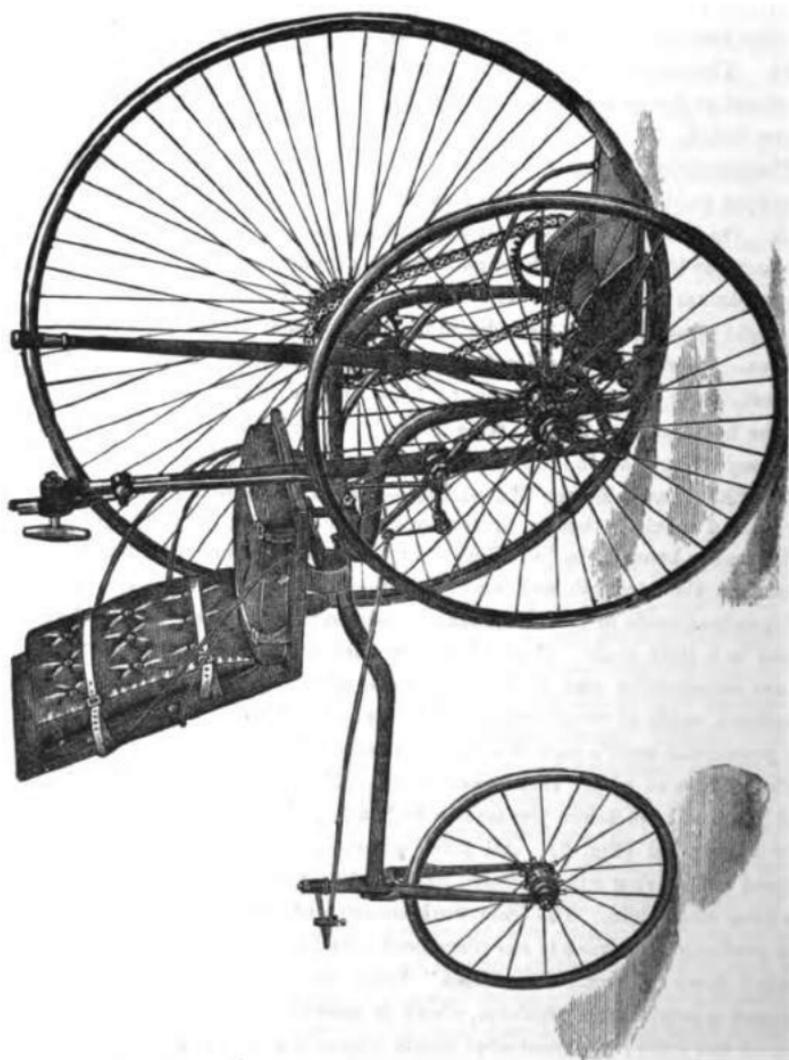

FIG. 2. THE HAND LEVER EXCELSIOR.
3. **The Hand Lever Excelsior.**—We have frequently been asked for a good machine that is driven by the hands alone, for the benefit of unfortunate beings who have lost the use of their lower limbs, and who, retaining the strength and vigour of their arms, wish for some more independent mode of travelling than having to rely on others to pull them about in a Bath chair. Most of the vehicles at present in vogue, such as are occasionally met in the street, are of very crude form, fearfully laborious, made of wood, extremely heavy (about 150lb. to 200lb.), and the proverbial snail's pace is a comparatively quick movement compared with the rate at which they crawl along. Fortunately, Messrs. Bayliss and Thomas have taken the matter in hand, and produced the machine now illustrated (Fig. 2). All three wheels are of different sizes: the largest and driving wheel is small itself—40in., the right wheel 30in., and the rear wheel 20in. The framework consists of weldless steel tubing in two portions; the front is one piece bent round at the back, with the legs carried down in front. The "feet" being solid, and turning outwards, support a comfortable platform, which is provided for the pedal extremities of the rider; the front edge slants upwards and outwards, to afford